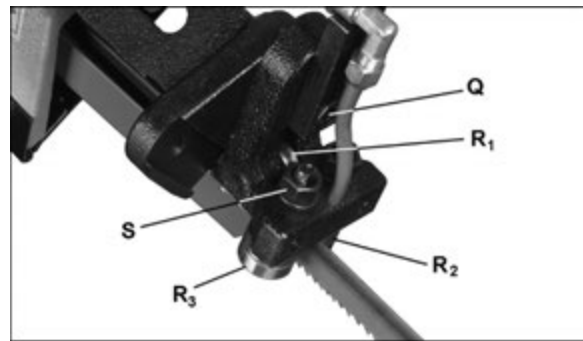

Figure 8-7: Blade Guide Setting
- 3) If there is a gap, loosen bolt (Q, Figure 8-7) on each blade guide assembly and rotate blade guide assembly until gap is eliminated between square and ruler.
- 4) Retighten bolts (Q, Figure 8-7).